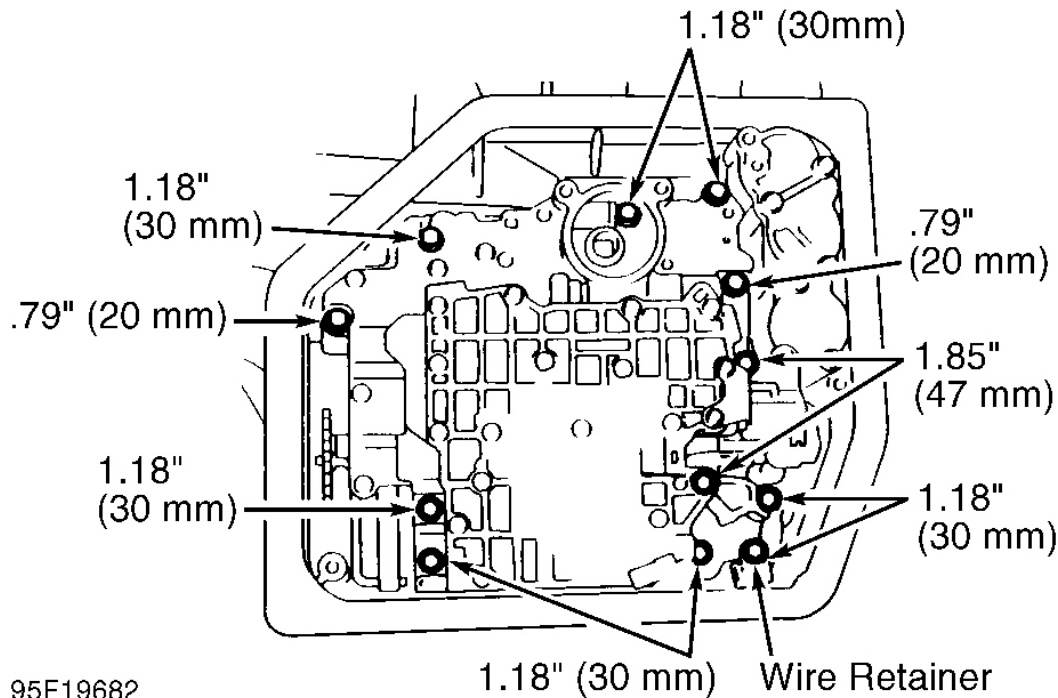

Fig. 2: Valve Body Assembly Bolts A-242L, A-241E & A-244E
2. Remove manual detent spring. Disconnect solenoid connector(s). Remove valve body assembly bolts. Note bolt length and location. See **Fig. 2** -7. Remove throttle cable. Disconnect manual valve connecting rod. Remove valve body assembly.
2. Install valve body assembly bolts finger tight. Ensure proper length bolts are installed in correct location. See Fig. 2 -7. Tighten bolts to 89 INCH lbs. (10 N.m). Connect solenoid connector(s). Install detent spring and tighten bolt to 89 INCH lbs. (10 N.m). Ensure manual valve lever contacts center of roller on detent spring. Using a plastic hammer, tap oil tubes into place.